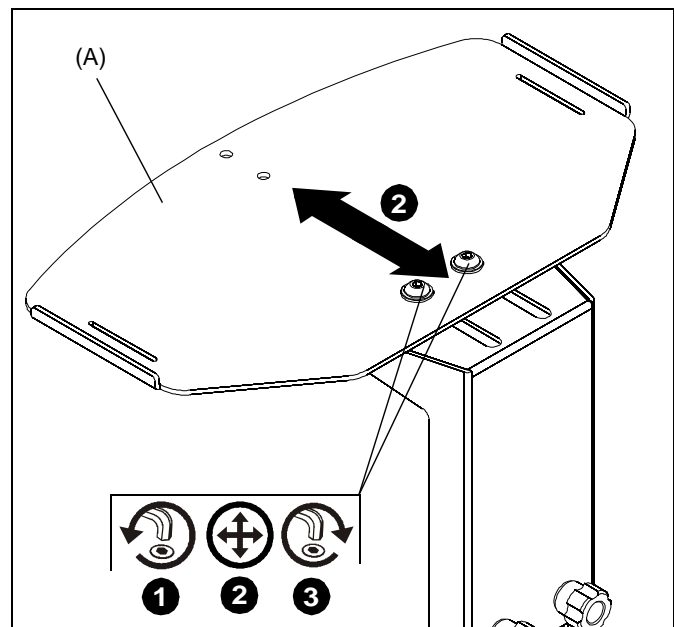

Figure 6
1. Loosen two button head cap screws on PAC716 shelf (A). (See Figure 6)
2. Adjust shelf to desired mounting position. (See Figure 6)
3. Tighten two button head cap screws on shelf until mount is secure. (See Figure 6)